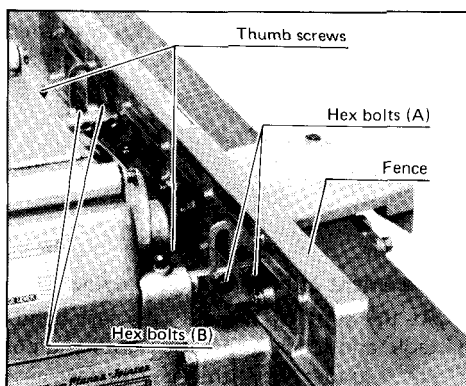

Fig. 7
At the desired angle, tighten the hex bolts, making sure that the bolt (A) is tightened first and the bolt (B) second. (Refer to Fig. 7). About 0.5 mm (1/64") clearance between the lower edge of the fence and the table top is necessary for the correct setting.